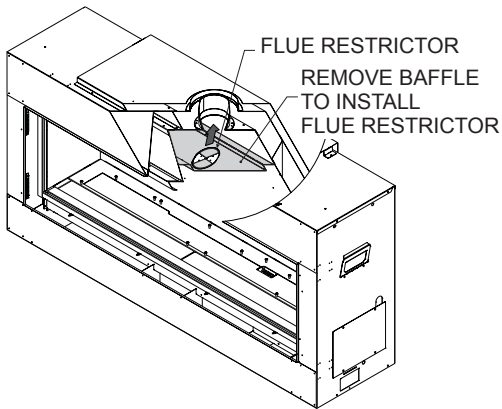

Figure 41
**NOTICE:** When installing flue restrictor, install with screw pointing downward. For installation of the restrictor after the venting is installed, remove (2) screws from each end of the flue baffle and set aside. Insert the restrictor up into the flue collar and position it as shown in Figures 41 and 42. Then, re-install the flue baffle.